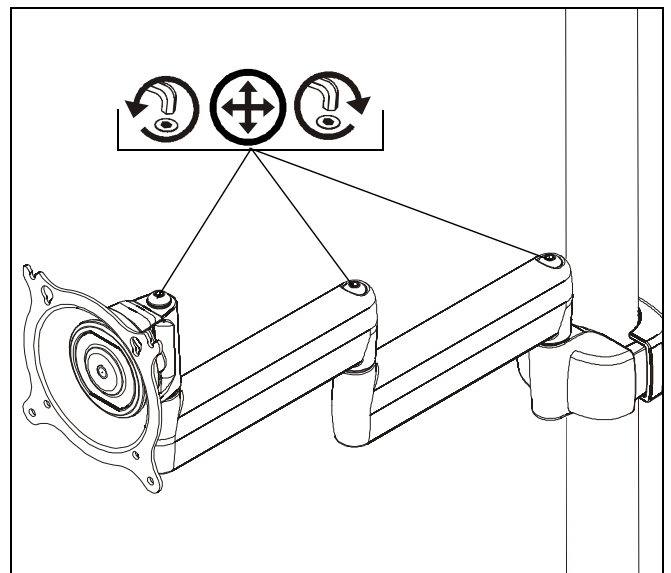

Figure 8
1. Using 3/16" hex wrench (L), loosen or tighten adjustment screw(s) as necessary. (See Figure 8)